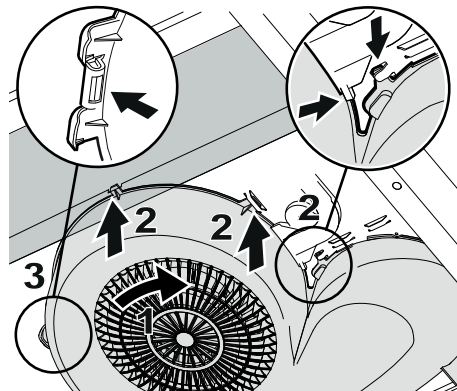

Fig. 8
Make sure all the snap retainers fit onto the cooker hood lugs. Twist the fan housing (1) into the lugs (2). Press the fan housing's snap retainer back into the lug (3). Fig. 8